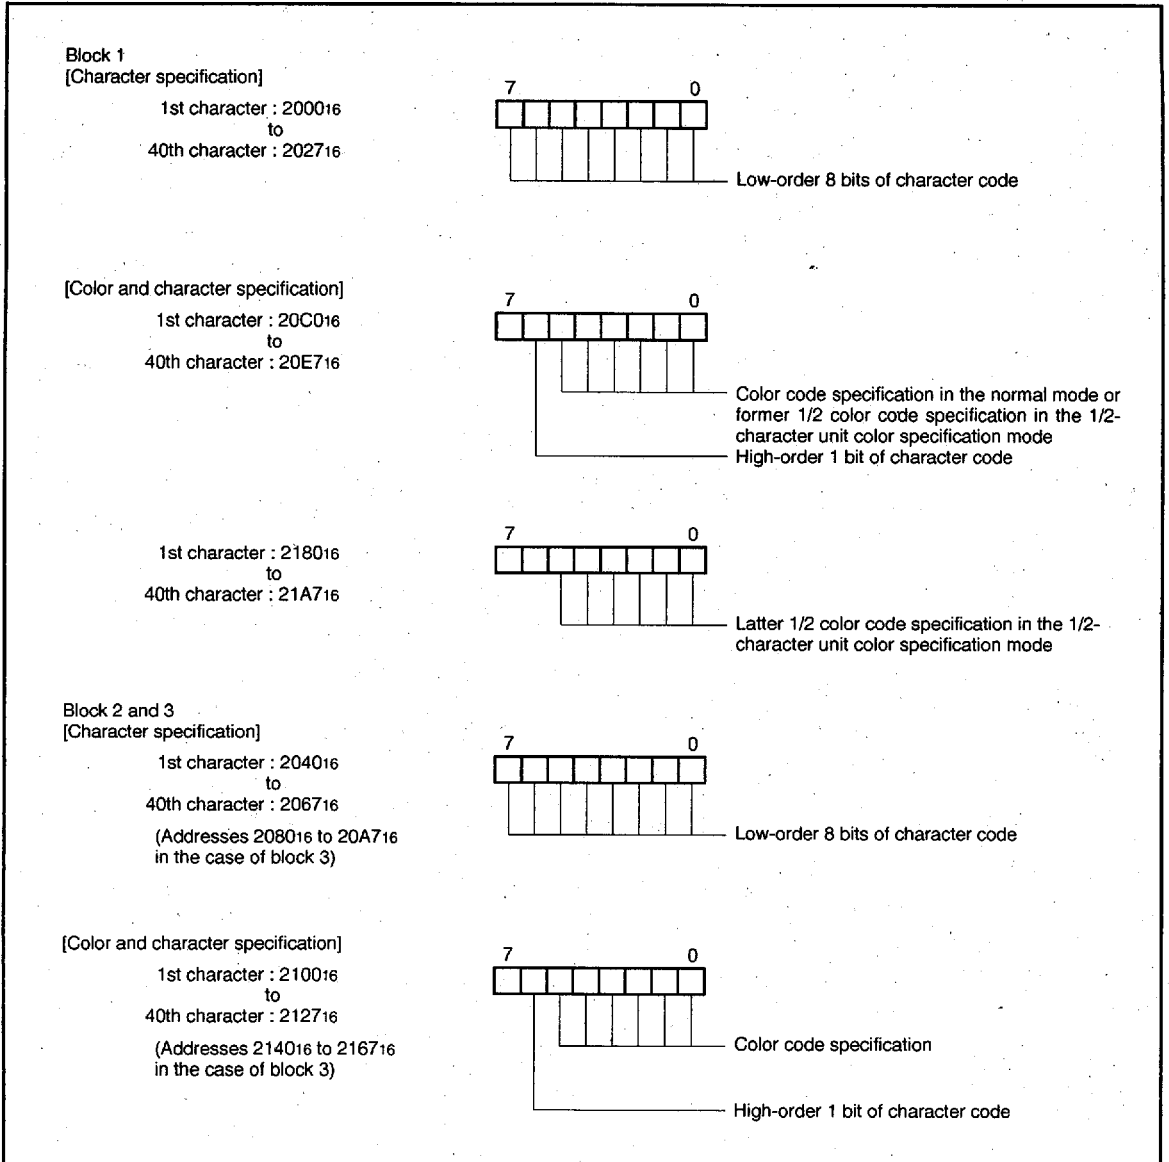

Fig. 31 Structure of CRT display RAM
For example, to display one character at the first character position (the left edge) of block 1, write the character code to bit 6 of address 20C016 and to address 200016, and write the color code to the lower-most 6 bits (bits 0 to 5) of address 20C016. For details of the color codes, see section (4) Color codes. The structure of the CRT display RAM is shown in Fig.31.